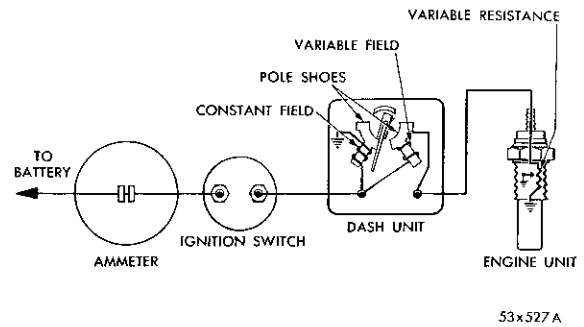

Fig. 7—Water Temperature Gauge
- (4) Continue this procedure until water runs clean. Refill cooling system.
- (5) Run engine and check for leaks.
9. ENGINE WATER TEMPERATURE GAUGE (Fig. 7)